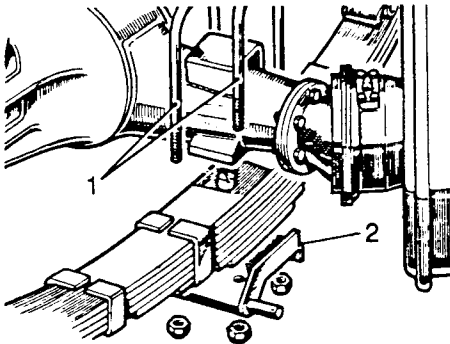

Fig J1.23
(3) Refer to Fig J1.23. Fit the axle U-bolts (1) and engage the lock plates (2).